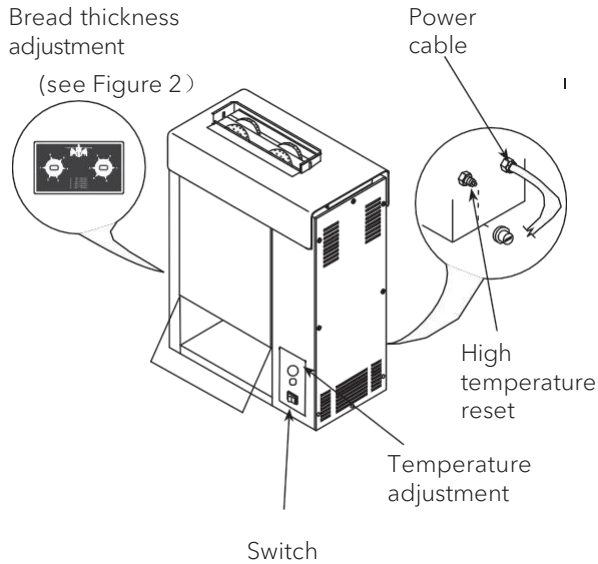

Figure1
2 · Turn on the switch (Figure 1). Turn the temperature knob to turn on the heating lamp, and toast the bread when the heating lamp goes out.
- 3 · Place the upper and lower layers in the groove (Figure 1) with the opposite sides.